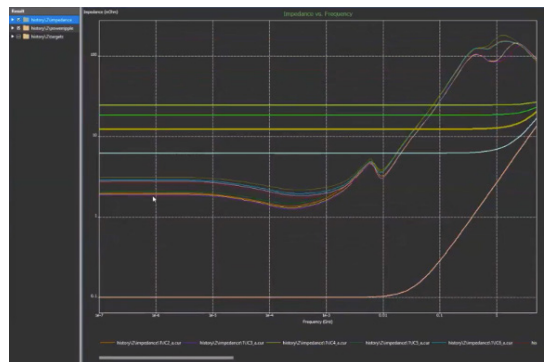

Figure 29: Results showing overlay of all eight port target impedances
Step 3: Now that the designer has the setup, the impedances on all eight of the nodes can be examined and compared to the existing target impedances. Figure 29 shows an overlay of all eight of the target impedances of the ports. It can be seen that for some of the lower frequencies most of the target impedances are being met, but some are definitely peaking out at above about 100MHz. This might be an indication back to the design team that some of the impedance above 100MHz might need to be reduced as it may not be meeting the power ripple specification.